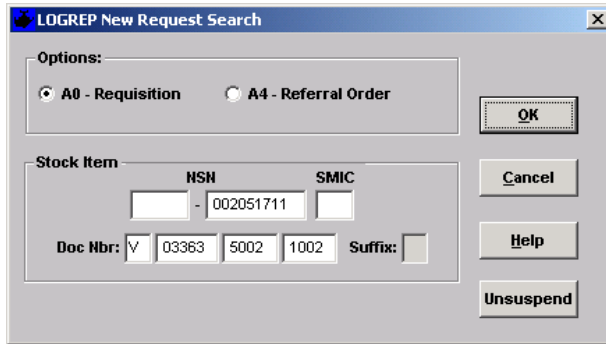

Figure 6.2
- 6.1.1 The **LOGREP New Request Search** window (Figure 6.2) allows the user to process interactive requisitions (A0_) and referrals (A4_), as well as unsuspends those transactions that did not pass batch request validation.